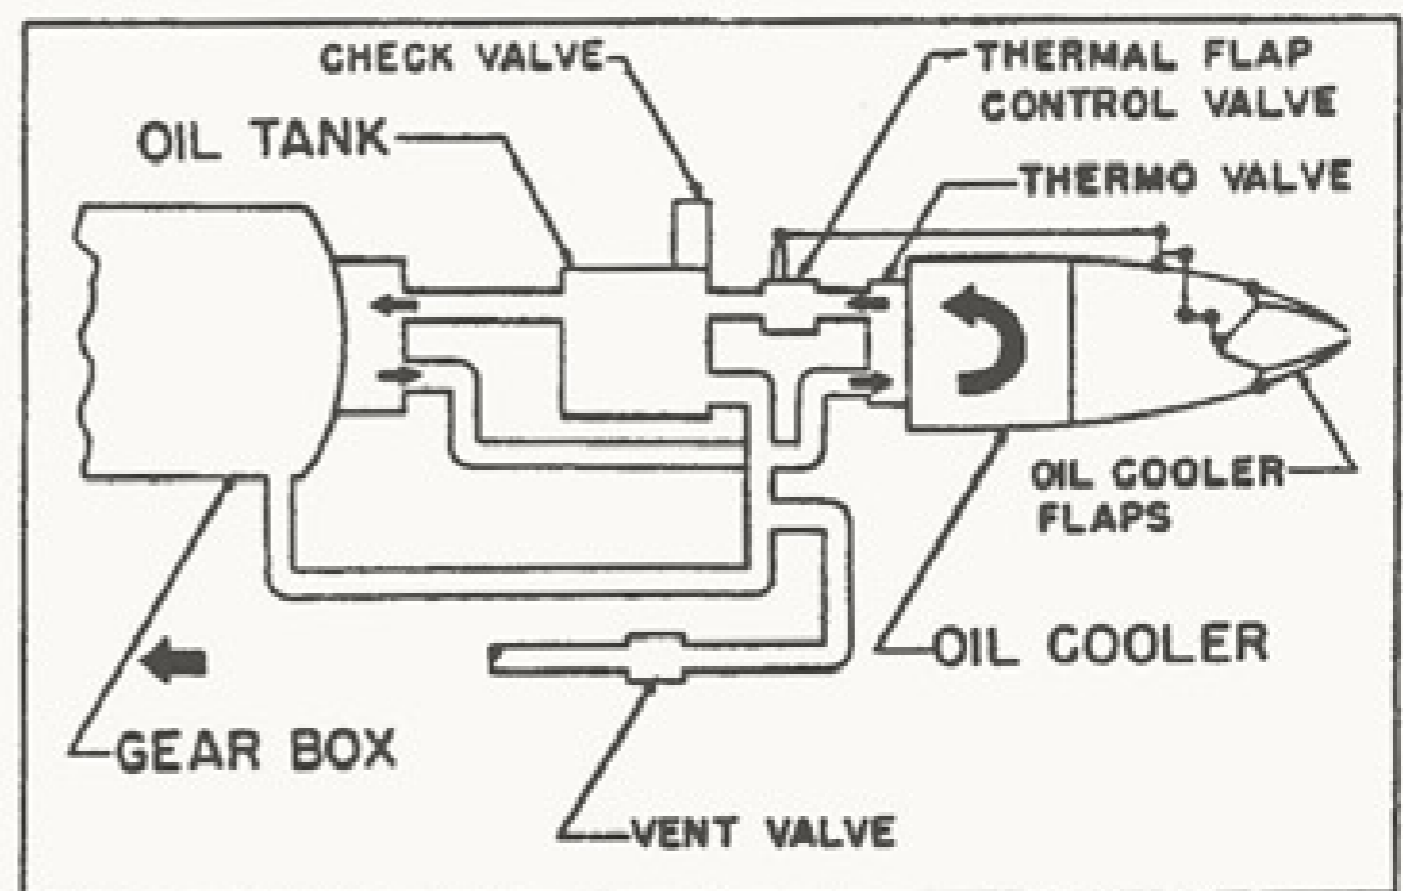

Figure 23. Propeller Gear Box Oil System
47. PROPELLER GEAR BOX OIL SYSTEM.- Each propeller gear box is provided with an independent oil system. (See figure 23,) Oil temperature control switches are located on the engineer's lower electrical control panel, however, these switches are inoperative on this airplane. The propeller gear box oil